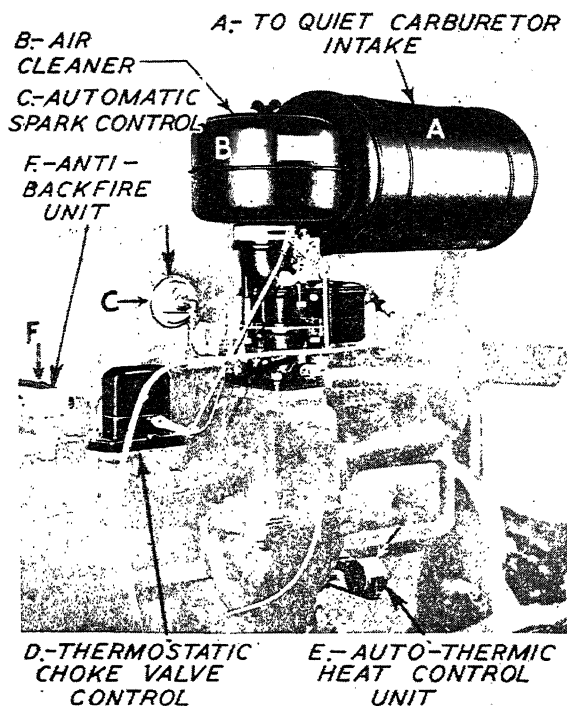

Fig. 3. Studebaker Fuel System
**Fuel System Refinement.** The fuel supply system of the automobile has been subject to many refinements. Fig. 3 illustrates the Studebaker fuel system with a grouping of some of the refinements offered by that company. For instance in order to quiet the carburetor intake the device illustrated at A, Fig. 3, has been incorporated. This is a system of conducting the air through passageways